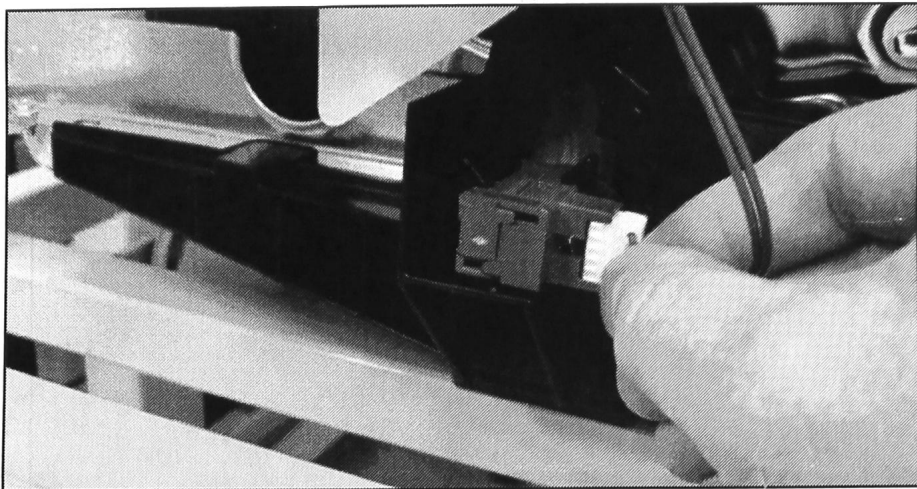

FIGURE 1
- 2) **Unit is Point Wash Turbozone** - In this case the rast jumper needs to be connected to the turbozone actuator. See *Figure 1*.